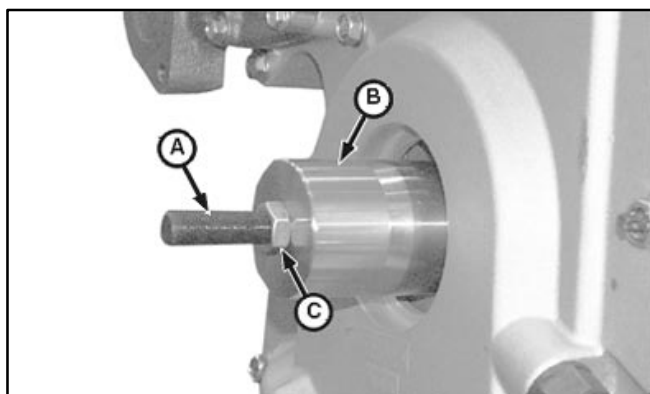

FIGURE 7-31. INSTALLING OIL SEAL
1. Clean and inspect the seal bore in the timing gear cover (Figure 7-31). Check for nicks and burrs. Use a medium-grit emery cloth to smooth rough areas.